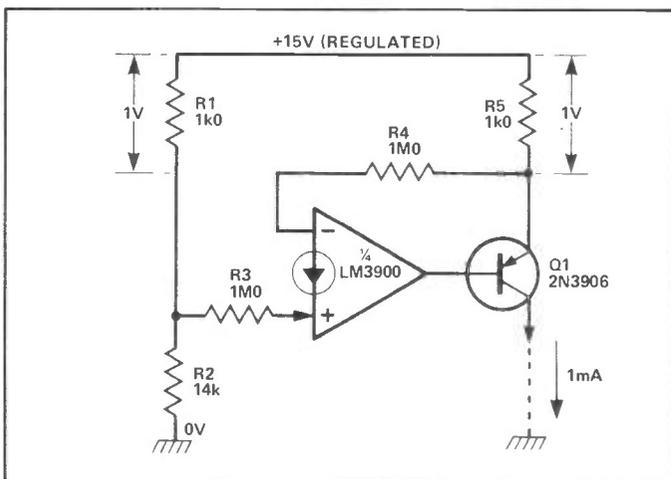

Figure 27: Fixed-current source (1 mA).
**Figures 27 to 30** show various ways of using the LM3900 to make fixed-current regulator circuits. The **Fig. 27** design acts as a fixed (1 mA) current source, which produces a fixed current into a load connected between Q1 collector and ground, almost irrespective of the load impedance (in the range zero to 14k). The circuit is powered from a regulated 15 volt supply. Potential divider R1-R2 applies a 14 volt reference (15V - 1V) to R3, so the op-amp output automatically adjusts to provide an identical voltage at the R4-R5 junction. This produces 1 volt across R5, resulting in an R5 current of 1 mA. Since this current is derived from Q1 emitter, and the emitter and collector currents of a transistor are almost identical, the circuit acts as a fixed-current source. The source current can be doubled, if desired, by halving the R5 value, etc.